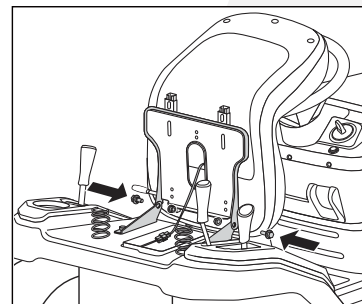

Fig. 6
1. Connect the seat to the mower base with bolts and nuts provided. (Fig. 6)